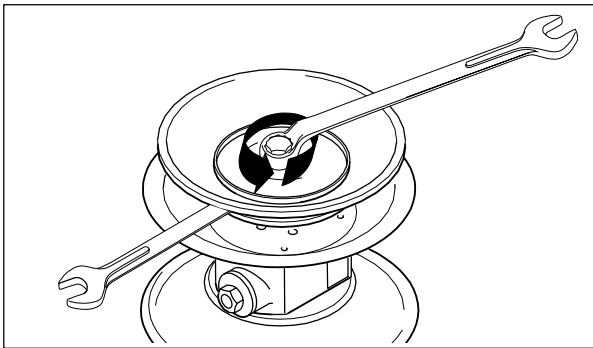

Fig. 11: Loosen the diaphragm plate. (not used for E4[®] compound diaphragm.)
- Loosen the outer diaphragm plate and take it off with the diaphragm (Fig. 11).